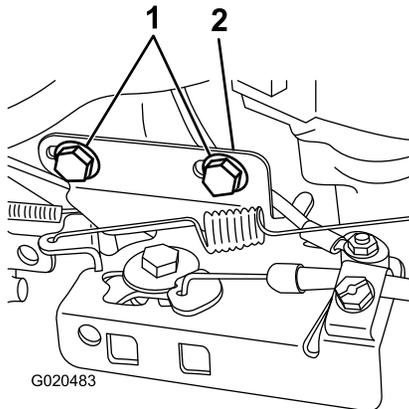

Figure 29
1. Loosen the 2 bolts securing the cable attachment bracket and slide it as far as possible to the left then tighten the 2 bolts (Figure 29).